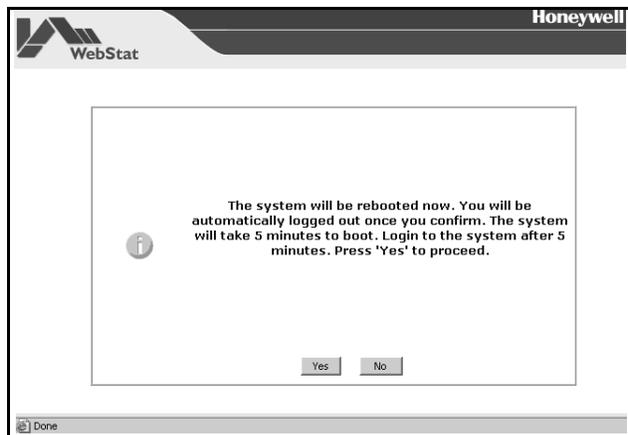

Fig. 10. Reboot Message.
2. Click **Save** to save the network changes. WebStat will prompt to reboot the system as shown in Figure 10.